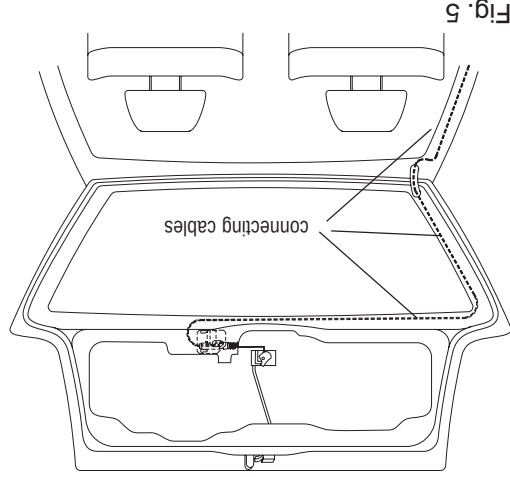

Fig. 5
- ◆ Lay the green and blue connecting cables through the tailgate in the interior of the vehicle (see Fig. 5). Use the original safety rubber for this.